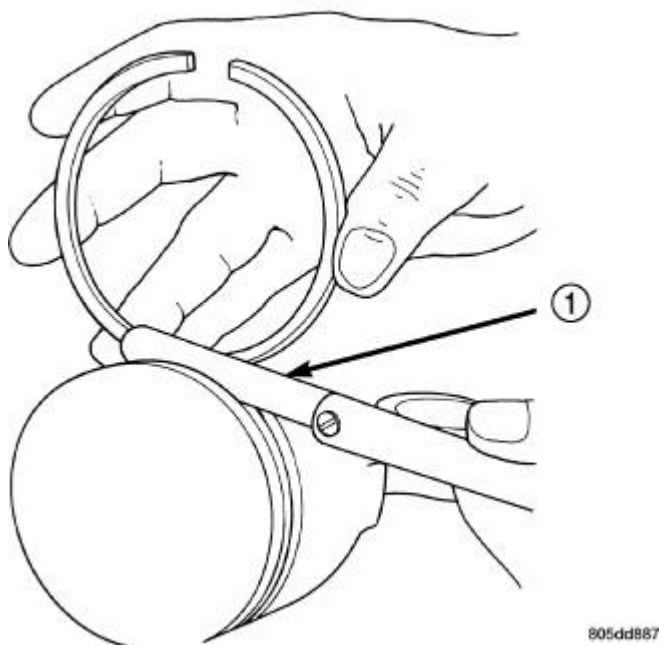

Fig. 188: Measuring Piston Ring Side Clearance
1. Measure the ring side clearance as shown in **Fig. 188**. Make sure the feeler gauge (1) fits snugly between the ring land and the ring. Replace any ring not within specification.